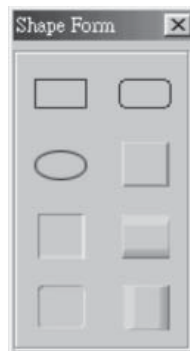

Fig. 4-27 Insert Some Basic Shape Form
1. Click the button  and move the mouse to the drawing interface, and the following dialogue frame as in Fig. 4-27 will be shown in the system as below.